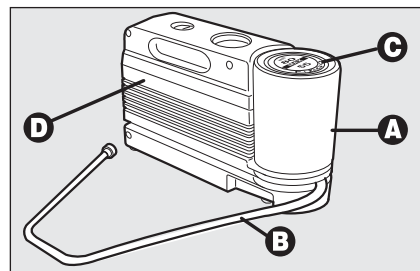

fig. 11
The kit **fig. 11** is placed in the boot. In the kit container you will also find the screwdriver and the tow hitch.
- a bottle **A-fig. 11** containing the sealer, fitted with: